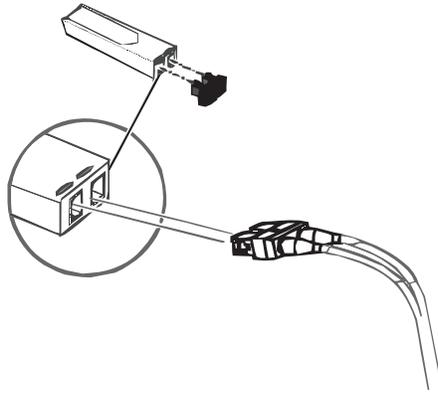

Figure 12. Small form factor pluggable
2. Insert the SFP into the SFP socket on the VFCO card. The SFP is keyed and can only be inserted one way, as shown in Figure 12 on page 15.